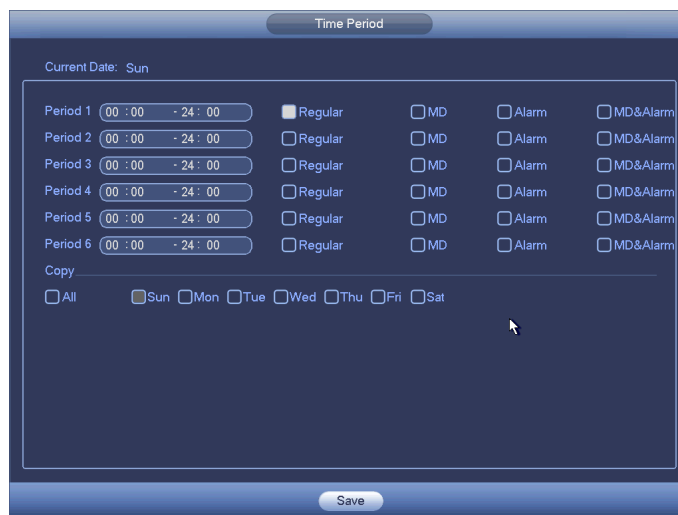

Figure 4-103
- Period setup: Click button  after one date or a holiday, you can see an interface shown as in Figure 4-103. There are four record types: regular, motion detection (MD), Alarm, MD & alarm. Please following the steps listed below to draw the period manually.